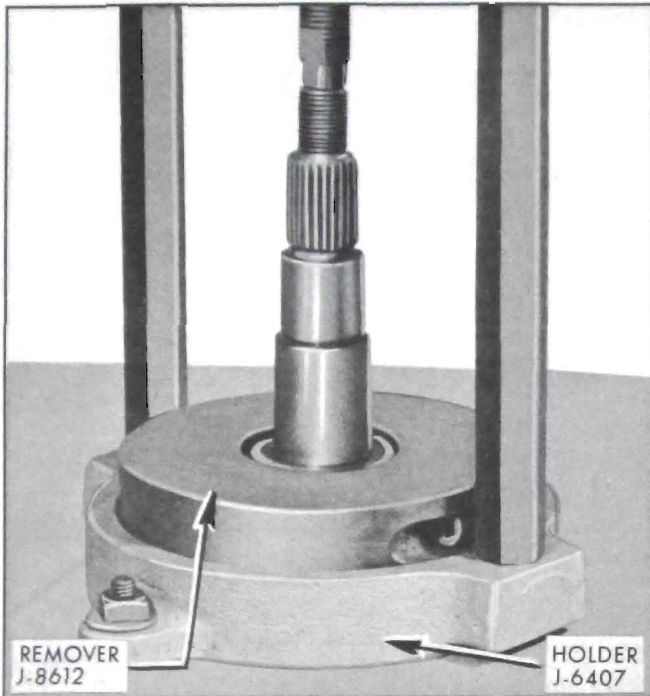

Figure 6-16—Removing Rear Pinion Bearing
1. If rear pinion bearing is to be replaced or pinion depth setting is to be changed, remove rear pinion bearing from pinion shaft using Remover J-8612 with Holder J-6407. See Figure 6-16.